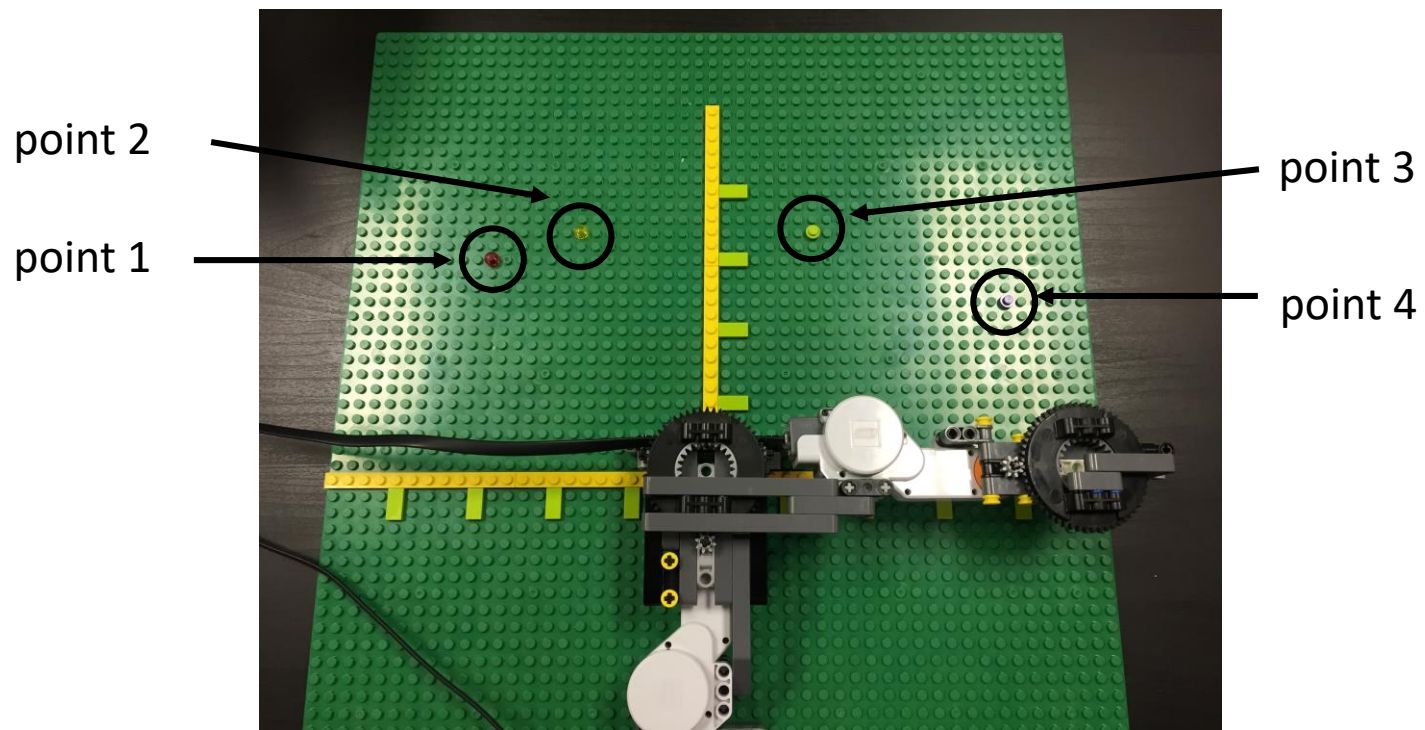
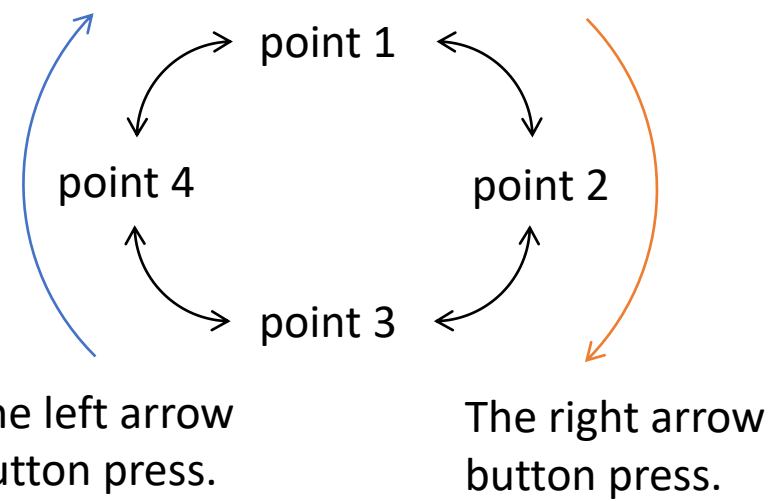

Figure 1.
Figure 2.
- 2) In Figure 1. there are four points: (-120 mm, 120 mm), (-72 mm, 136 mm), (56 mm, 136 mm), and (160 mm, 96 mm). As Figure 2., whenever a right or a left arrow button is pressed, let the manipulator's tip place at each point. That is, when the first right press, it places at point 1. Next when the second press, at point 2. But if the left press, it places again at point 1.